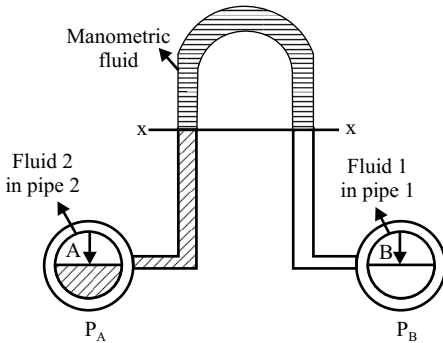

Figure 2.11a: Just before connecting inverted differential U-tube
b) Inverted Differential U-tube Manometer: Inverted differential U-tube manometer is a device just as same that of U-tube differential manometer but is inverted in construction. It measures pressure difference ΔP at two different points “A” and “B” in a single pipe or different pipes, carrying two fluids of same or different kinds, as shown in Figure 2.11a. As small change in